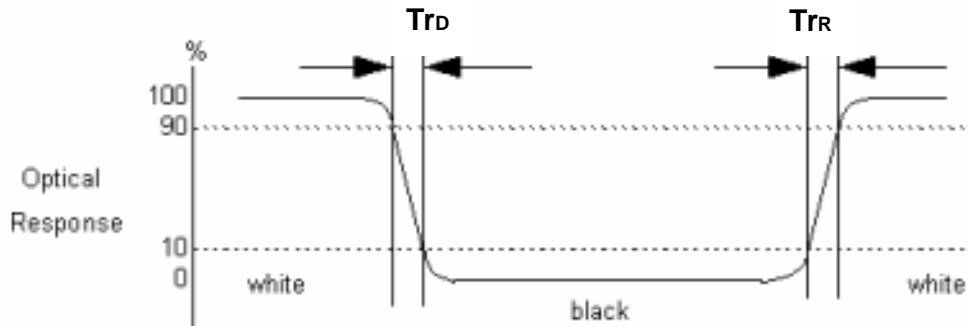

Fig.4-3 Response time
4. Response time is the time required for the display to transition from white(L255) to black(L0) (Decay Time, $T_{rD} = T_f$) and from black(L0) to white(L255) (Rise Time, $T_{rR} = T_r$). For additional information see Fig. 4-3.